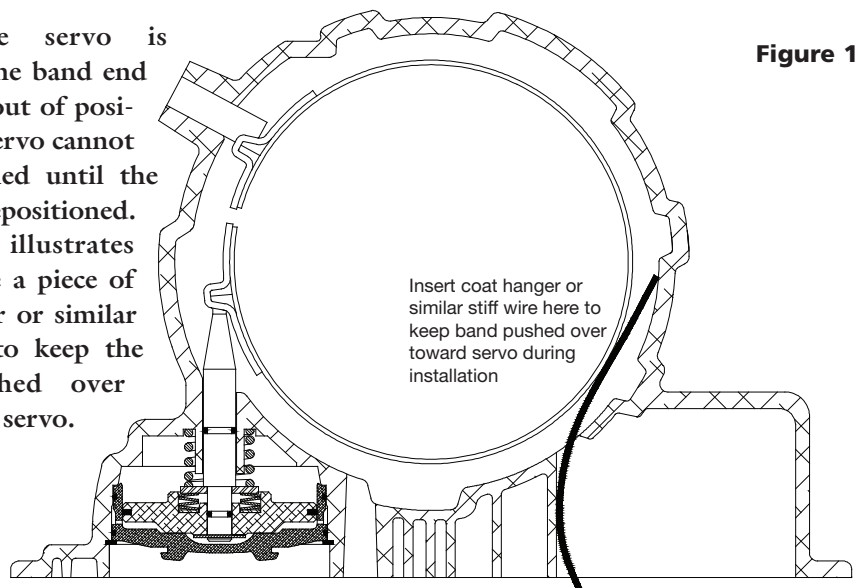

Figure 1
- When the servo is removed, the band end will move out of position. The servo cannot be reinstalled until the band is repositioned. Figure 1 illustrates how to use a piece of coat hanger or similar stiff wire to keep the band pushed over toward the servo.
NOTE: Ensure the pin properly engages the band by positioning the band as shown in Figure 1.